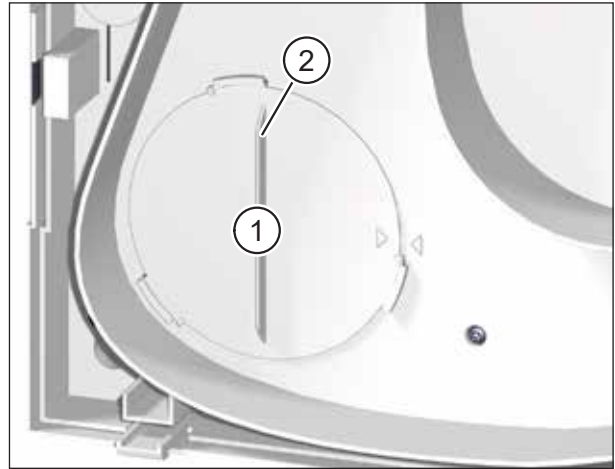

Fig. 21: Removing the outdoor air filter
- ▶ Turn the filter cover (item 1 in Fig. 21) using the hand grip (item 2 in Fig. 21) anti-clockwise until the filter cover is released from the retainers.
- ▶ Check the position of the filter cover. The hand grip must be vertical and the arrow on the filter cover must line up with the arrow for the locking position (see Fig. 21 on page 38).